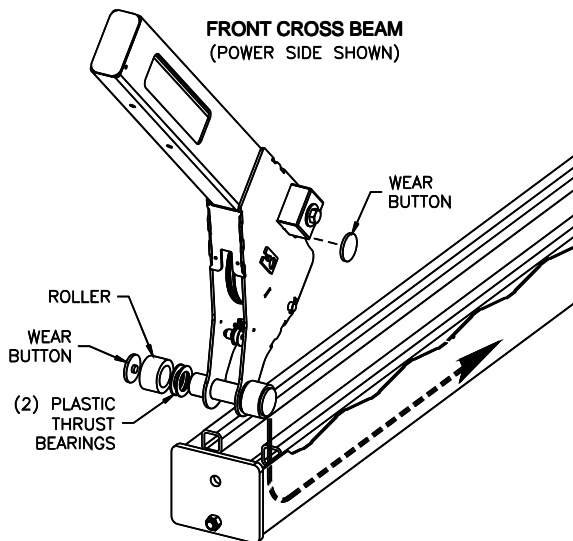

Fig 10 – Front Cross Beam Installation
- 21) Position the two front columns near the front corners of the lift and insert the front cross beams as shown in Fig 10. Notice that the front columns are identical, but the cross beams are not.